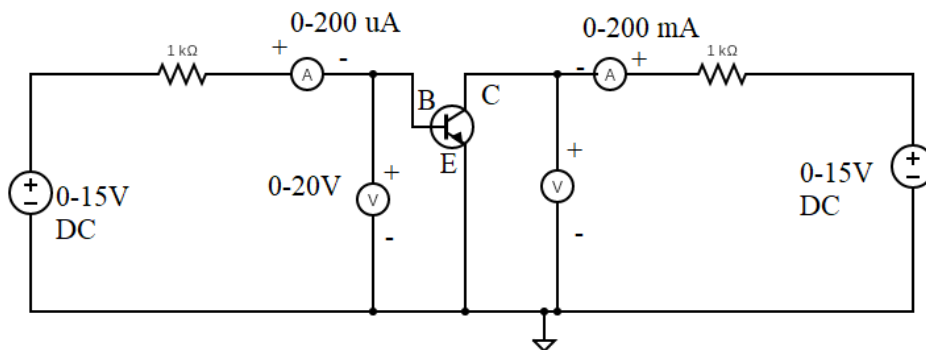

Figure 8.1: Circuit Diagram for transistor as common emitter configuration
1. Connect the circuit as per the given Figure 8.1.
- Connect the circuit as per the given Figure 8.1.